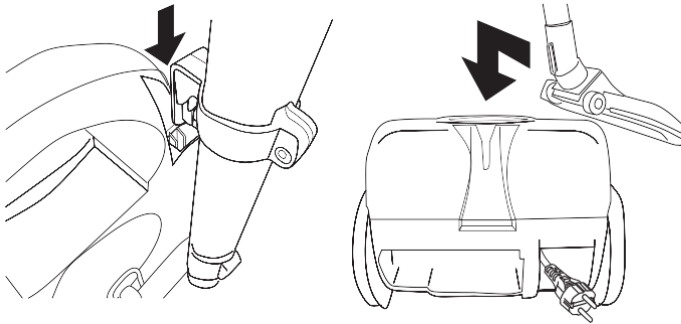

Figure 9 Storing the vacuum cleaner
3. Stand the vacuum cleaner upright. An attachment slot for the accessory bracket is fitted to the back of the vacuum cleaner next to the front castor (see Figure 9). Slide the bottom of the accessory bracket into the slot. This avoids the need to dismantle the vacuum cleaner after use; you can store the assembled appliance and retrieve it again quickly when you need it.